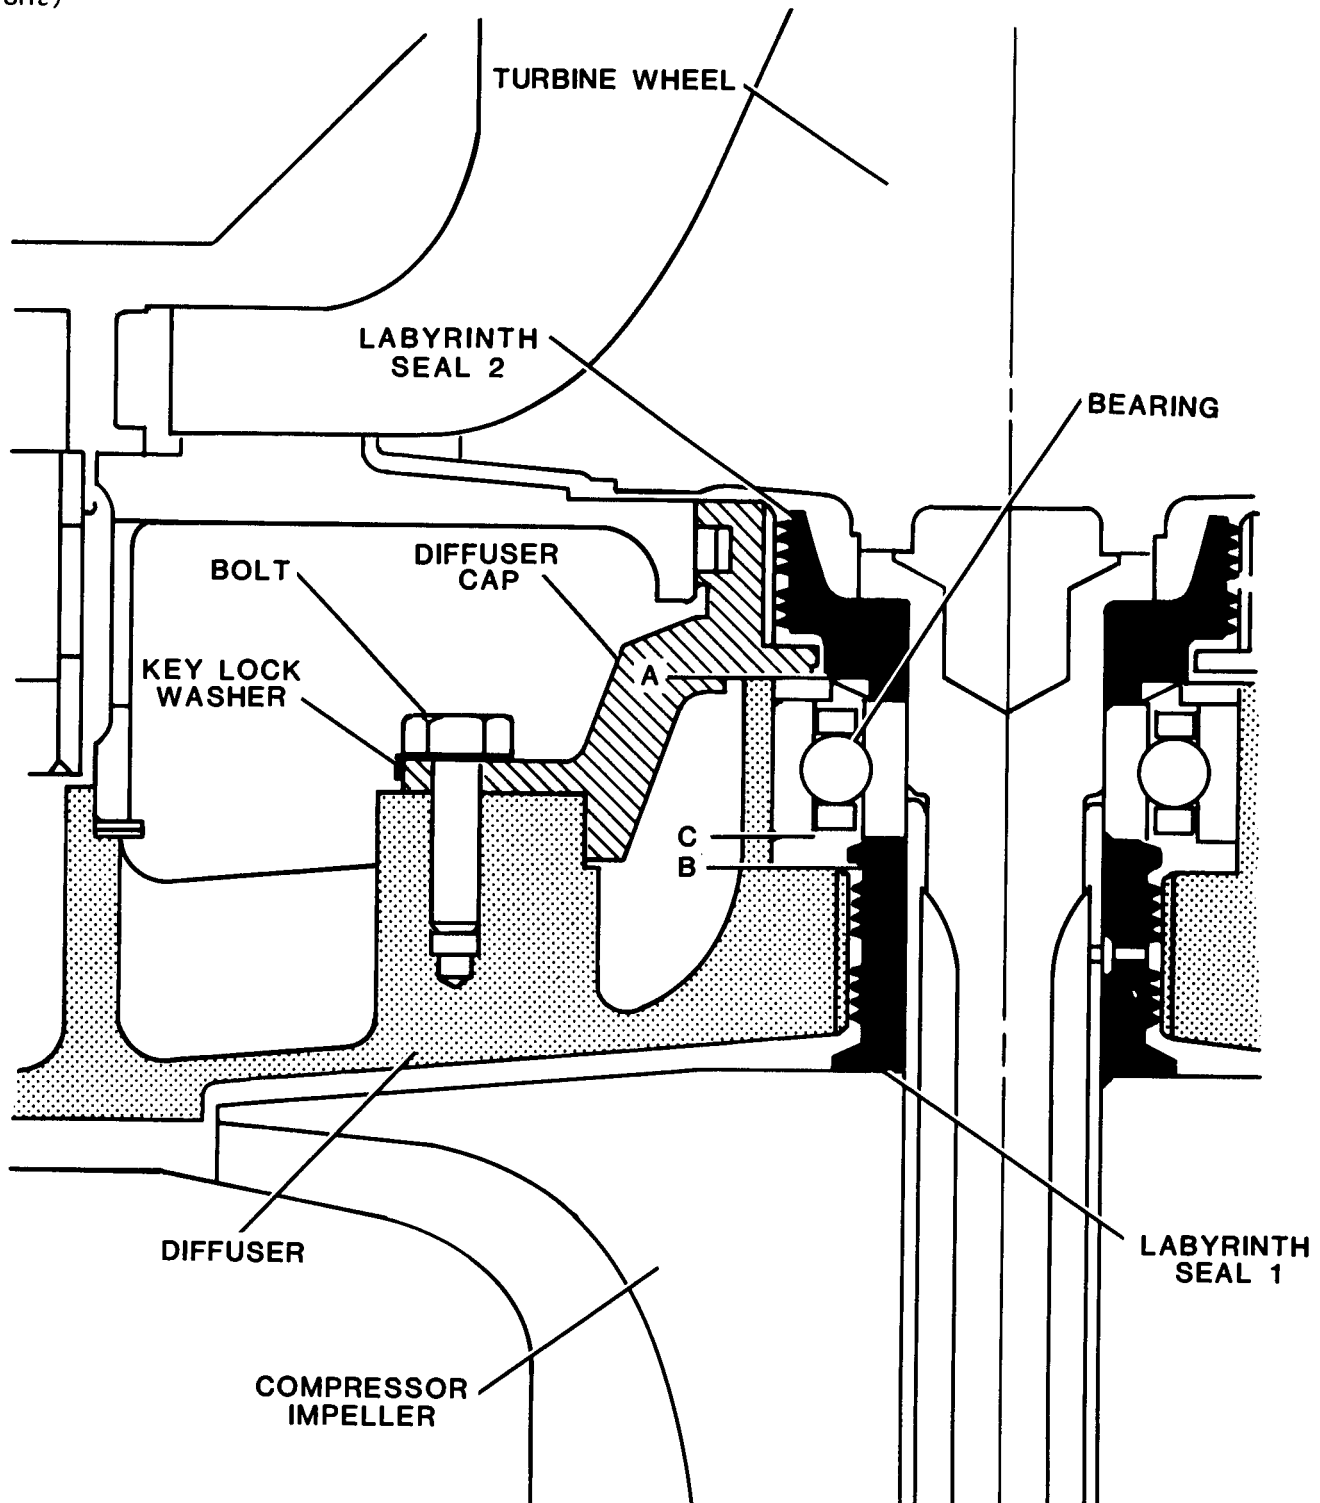

Figure 8-15. Diffuser Shim Set Installation - Measurement Points
(19) Refer to Figure 8-15. Measure and record distance from A to B. Measure and record distance from A to C. To obtain gap, subtract A to C distance from A to B distance. Add the remainder from the calculation, 0.090 inch (0.229 cm), and the end play of the bearing together to obtain gap to be filled. Measure height of wave washer and subtract from gap. Add shims to wave washer to fill gap